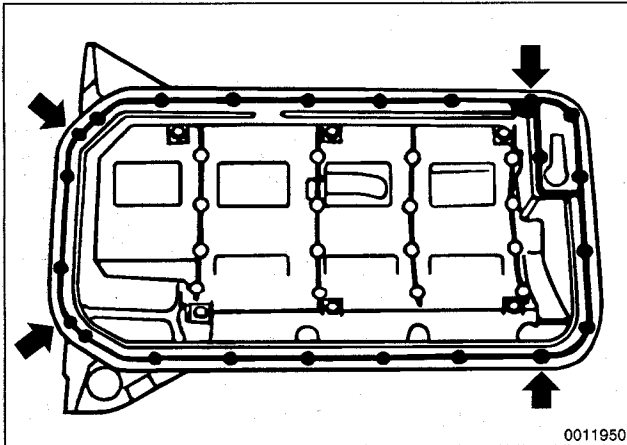

Fig. 5. Joint-mating areas at oil pan gasket where sealer should be applied (arrows). Apply a bead 3 mm wide by 2 mm high.
- Apply a small amount of non-hardening sealer (3-Bond[®] 1209 or equivalent) to oil pan gasket directly below joints for end cover and front timing case cover. See Fig. 5.